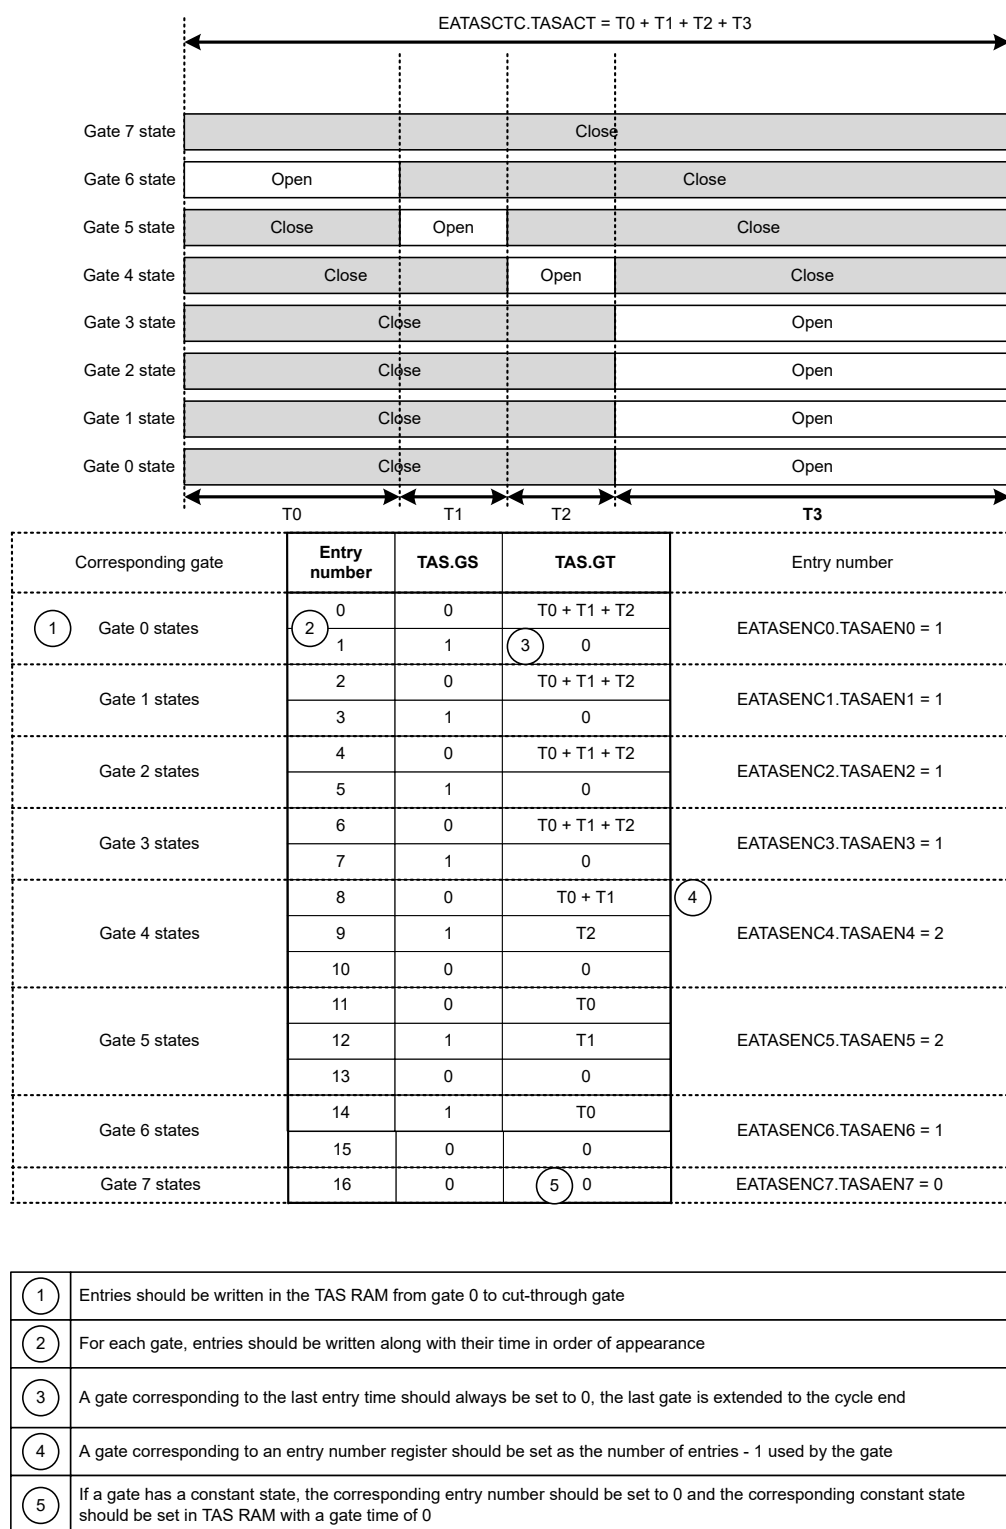

Figure 33.27
Figure 33.27 describes how to convert a schedule into a set of TAS entries and how to set the schedule corresponding register through an example.
- SW: Each gate time (T_0 , T_1 , T_2 , T_3 in Figure 33.27) should be greater or equal to $50 \text{ ns} + EATASHCC.TASJ$.